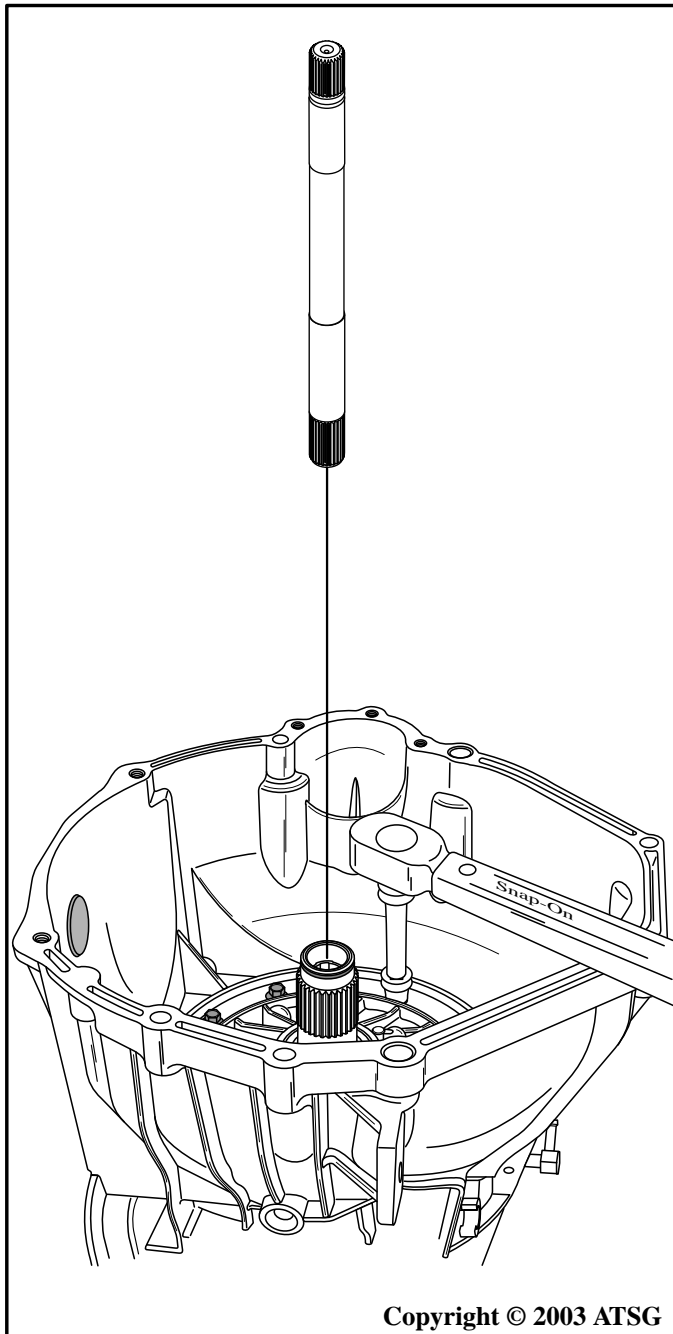

Figure 186
36. After all pump bolts are installed, torque them to 24-31 N·m (18-23 ft.lb.), using a criss-cross pattern (See Figure 186).
37. Remove input shaft as shown in Figure 186.